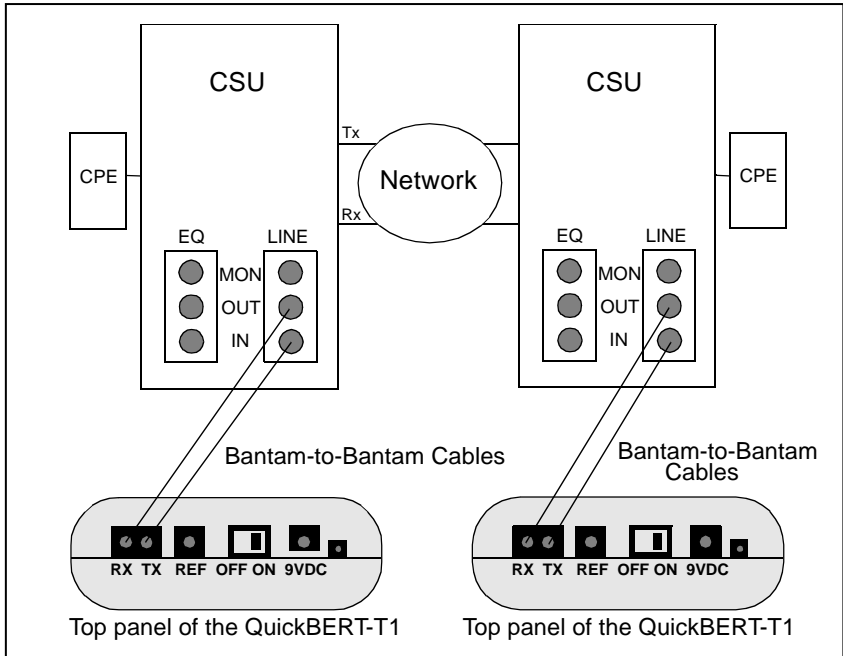

Figure 3-4. Performing an End-to End, Out-of-Service BERT
- b. Test with another test set at the distant end. See Figure 3-4 for an illustration of this setup.